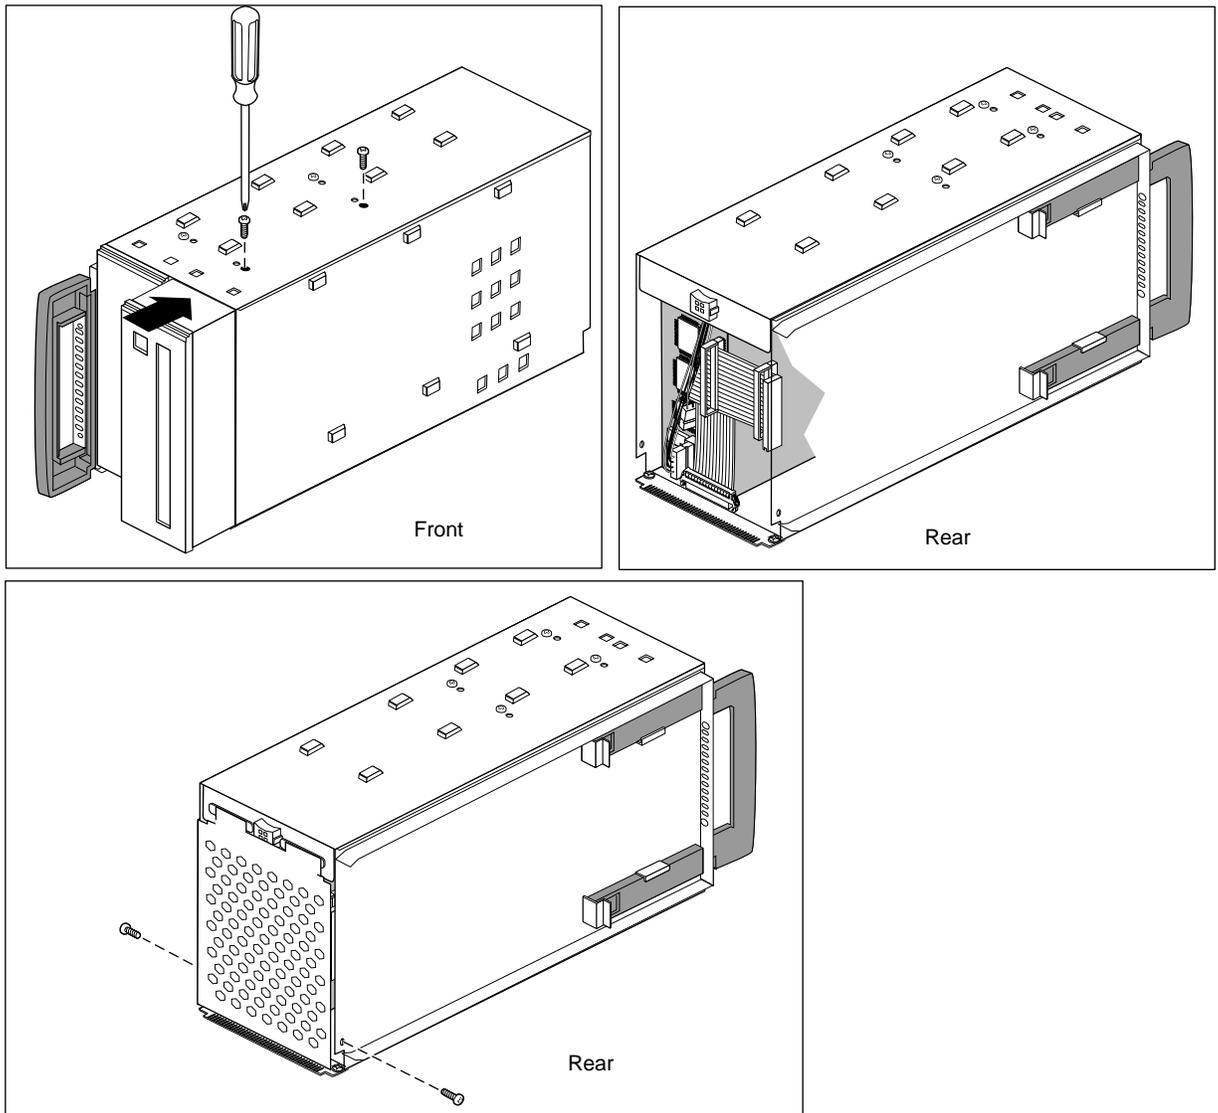

Figure 6-4 Installing a 5.25-Inch Drive in the Peripheral Carrier
4. Slide the drive into the peripheral carrier and attach it with four screws through the side of the carrier, as shown in Figure 6-4.
6. Replace the access plate. See Figure 6-4.